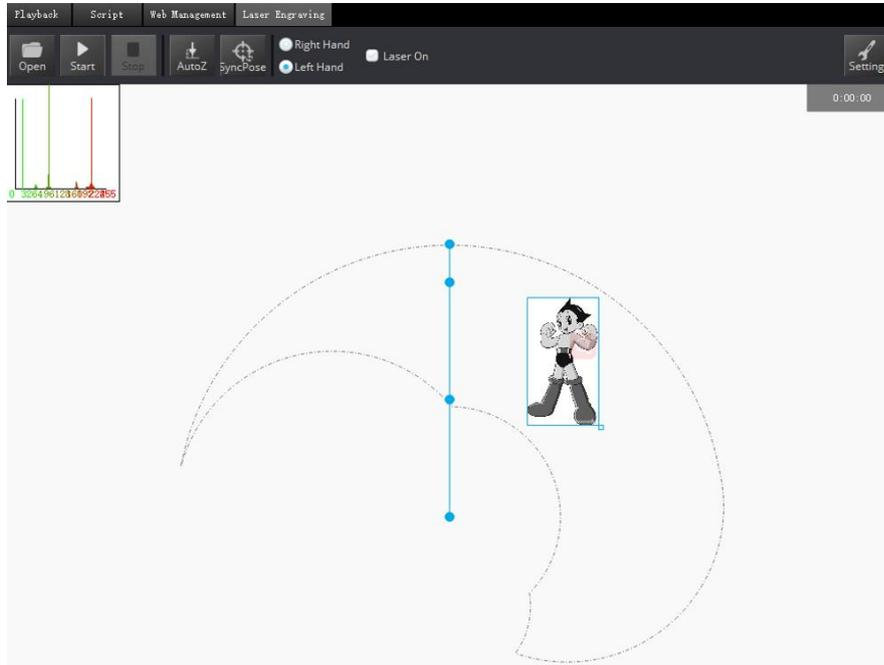

Figure 6.17 Import picture
**Step 2** Click **Open** on the Laser Engraving page, and select the picture to be engraved, as shown in Figure 6.17.
- The imported picture should be placed in the annular region, as shown in Figure 6.17. If not, it is unable to engrave normally and the border of the imported picture will be highlighted in red.
- The annular region depends on arm orientation. Please adjust the imported picture according to the real annular region. Figure 6.17 shows the annular region when arm orientation is left.